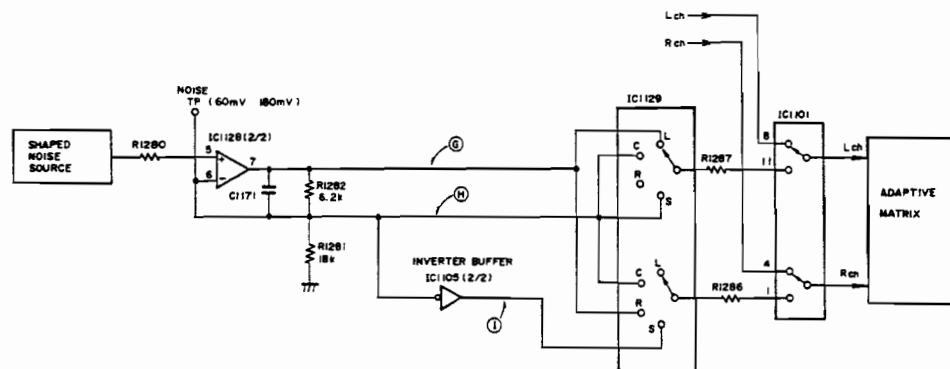

Figure 10-6. Block diagram of NOISE SEQUENCER
In Figure 10-6, when setting the level of ③ to 0dB, the level of ④ will become -3dB.